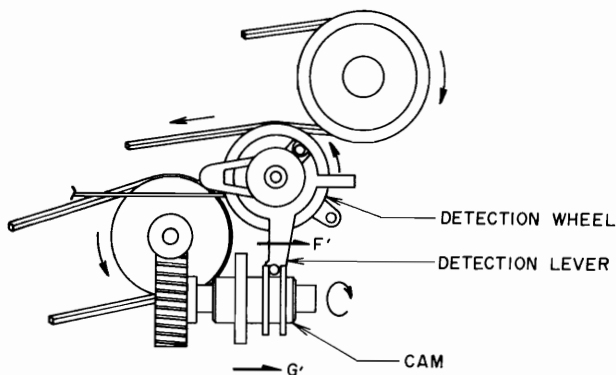

Fig. 7
- 1) Because the detection wheel is turning counter-clockwise as indicated in Fig. 7, friction between the detection wheel and the detection lever causes constant pressure to be exerted on the detection lever in the direction of arrow F', while the detection lever exerts force F' on the cam in the direction of arrow G'.
- 2) The cam rotates, exerting force on the pawl of the cam in the direction of G' as indicated in Fig. 7 causing the pawl to rotate on the right hand of the plunger. The cycle of E, F and H positions are repeated as illustrated in Fig. 6(b).
- 3) When tape transport stops, the detection wheel driven by the counter belt ceases rotating, and the force in the direction of the arrow G' which was exerted on the cam as shown in Fig. 7 ceases. In this case, the motor continues rotating, keeping the worm pulley turning. Therefore, when the cam continues to rotate with the pawl shifted from E to F position, the pawl does not move in the direction of C but turns in the center of the plunger.